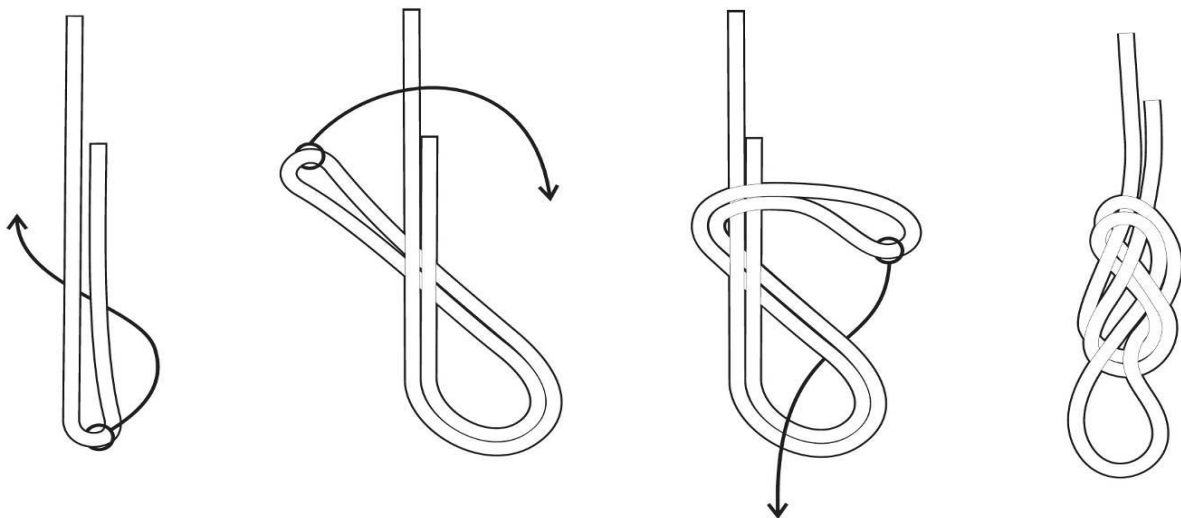

**Figure-8 Stopper Knot**
## 2. FIGURE-8 STOPPER KNOT:
## 3. FIGURE-8 ON-A-BIGHT:
**Figure-8 on-a-bight**
## 4. DOUBLE-LOOP FIGURE-8: